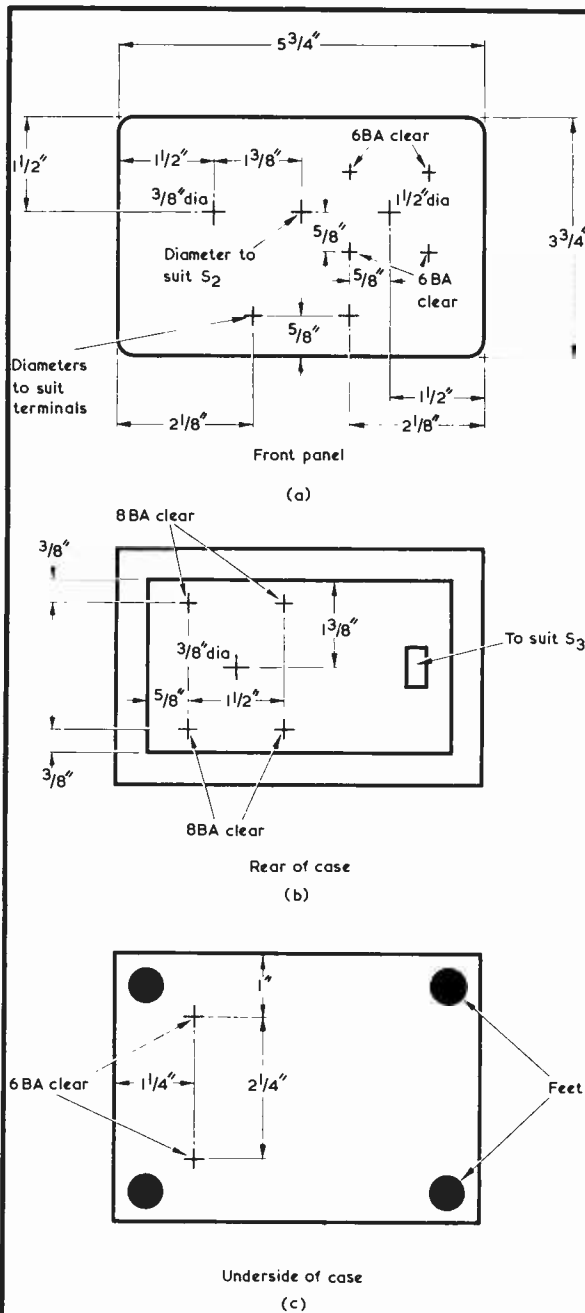
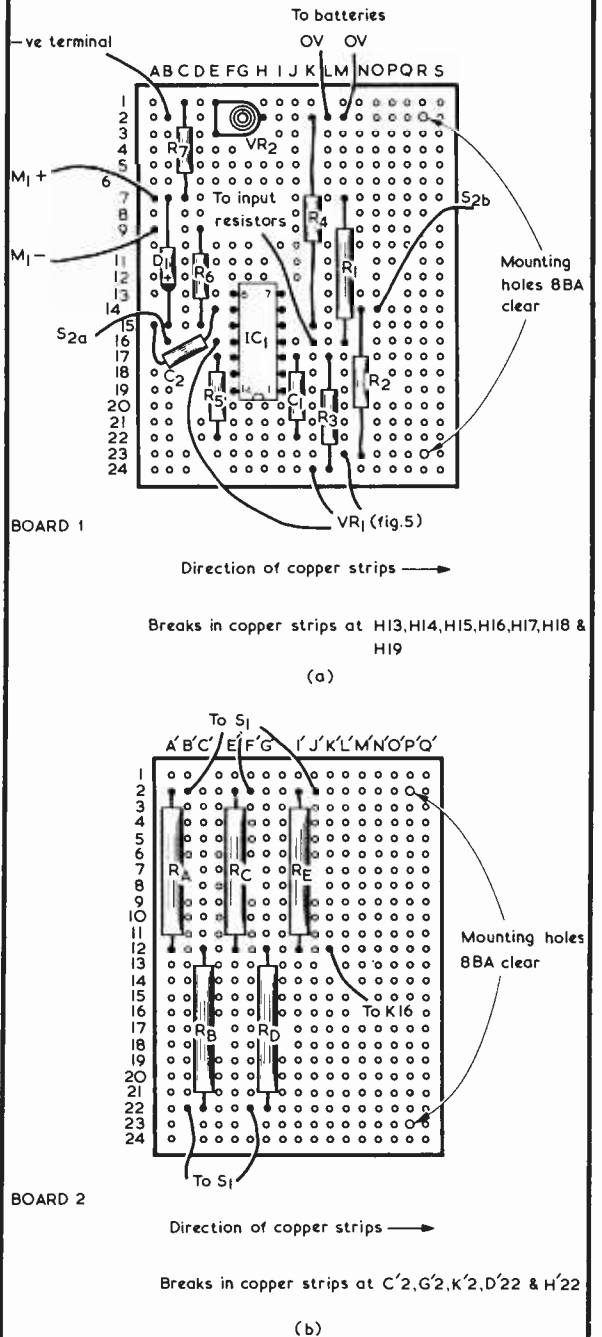

Fig. 3 (a) Drilling centres for the front panel, as viewed from the rear
Fig. 4 (a) Board 1, viewed from the component side
- 2 Pieces Veroboard, 0.1in. matrix (see Fig. 4)
Start off by drilling the case and front panel according to Fig. 3. The components should then be soldered onto the Veroboard as shown in Fig. 4, after drilling the mounting holes and making the specified breaks in the copper strips. A  $\frac{1}{16}$  in. twist drill is ideal for this. The integrated circuit should be the last component to be